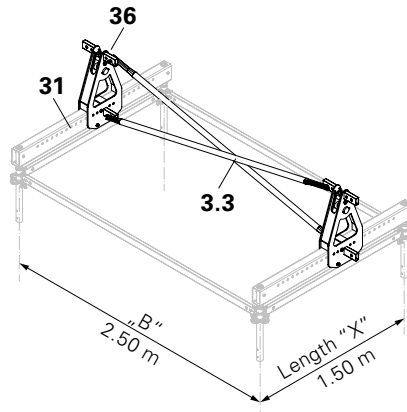

Fig. A11.01 – Fixed bearing or floating bearing.
4. Install Ledger Braces crosswise on the Bearer (3.3). (Fig. A11.01)